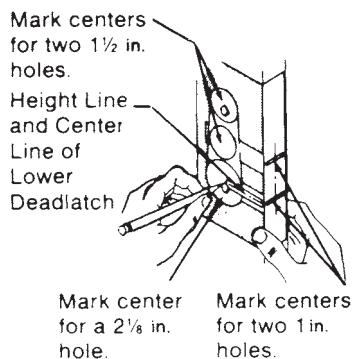

Figure 13.57 Marking holes.
1. Mark the height line (the centerline of the deadlatch) on the door (Fig. 13.57). *Suggestion:* Mark the line 38 inches from the floor.
and two $1\frac{1}{2}$ -inch holes through the template (Fig. 13.57). Mark the centers for two 1-inch latch holes on the door edge.